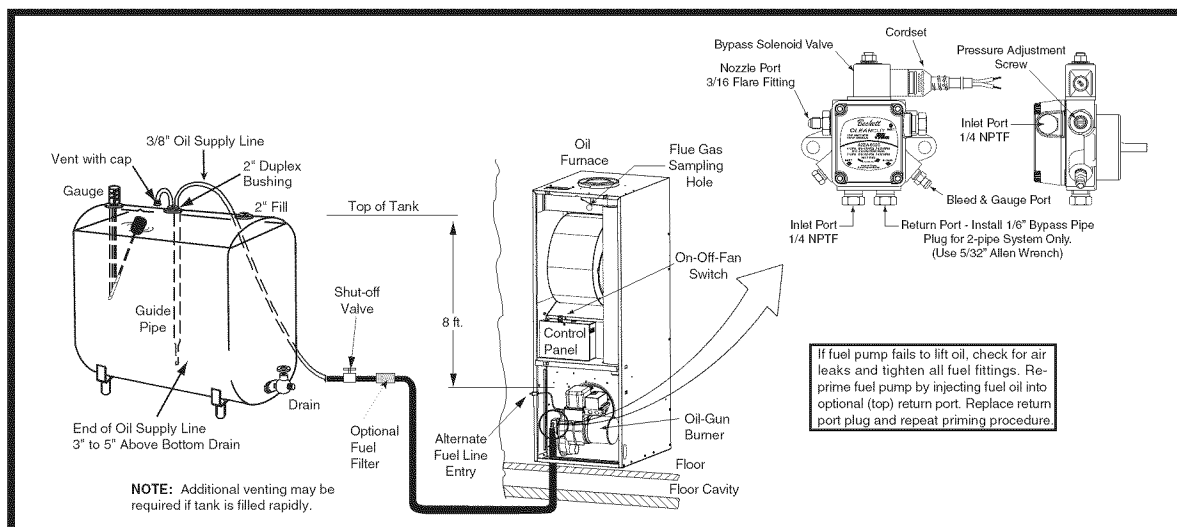

Figure 27. Typical Oil Piping for Above Ground (Single-Line) Supply
- A fuel or tank gauge (Figure 27) is recommended for easy checking of the fuel level. Check the gauge reading with a dipstick.
The one line system is highly recommended where vertical lift, from bottom of tank to pump, is less than eight feet (Figure 27). A single line hookup has the advantage of lower cost and quieter operation.
2. Install duplex bushing for two 3/8" lines in the top fitting of the tank. See Figure 27.